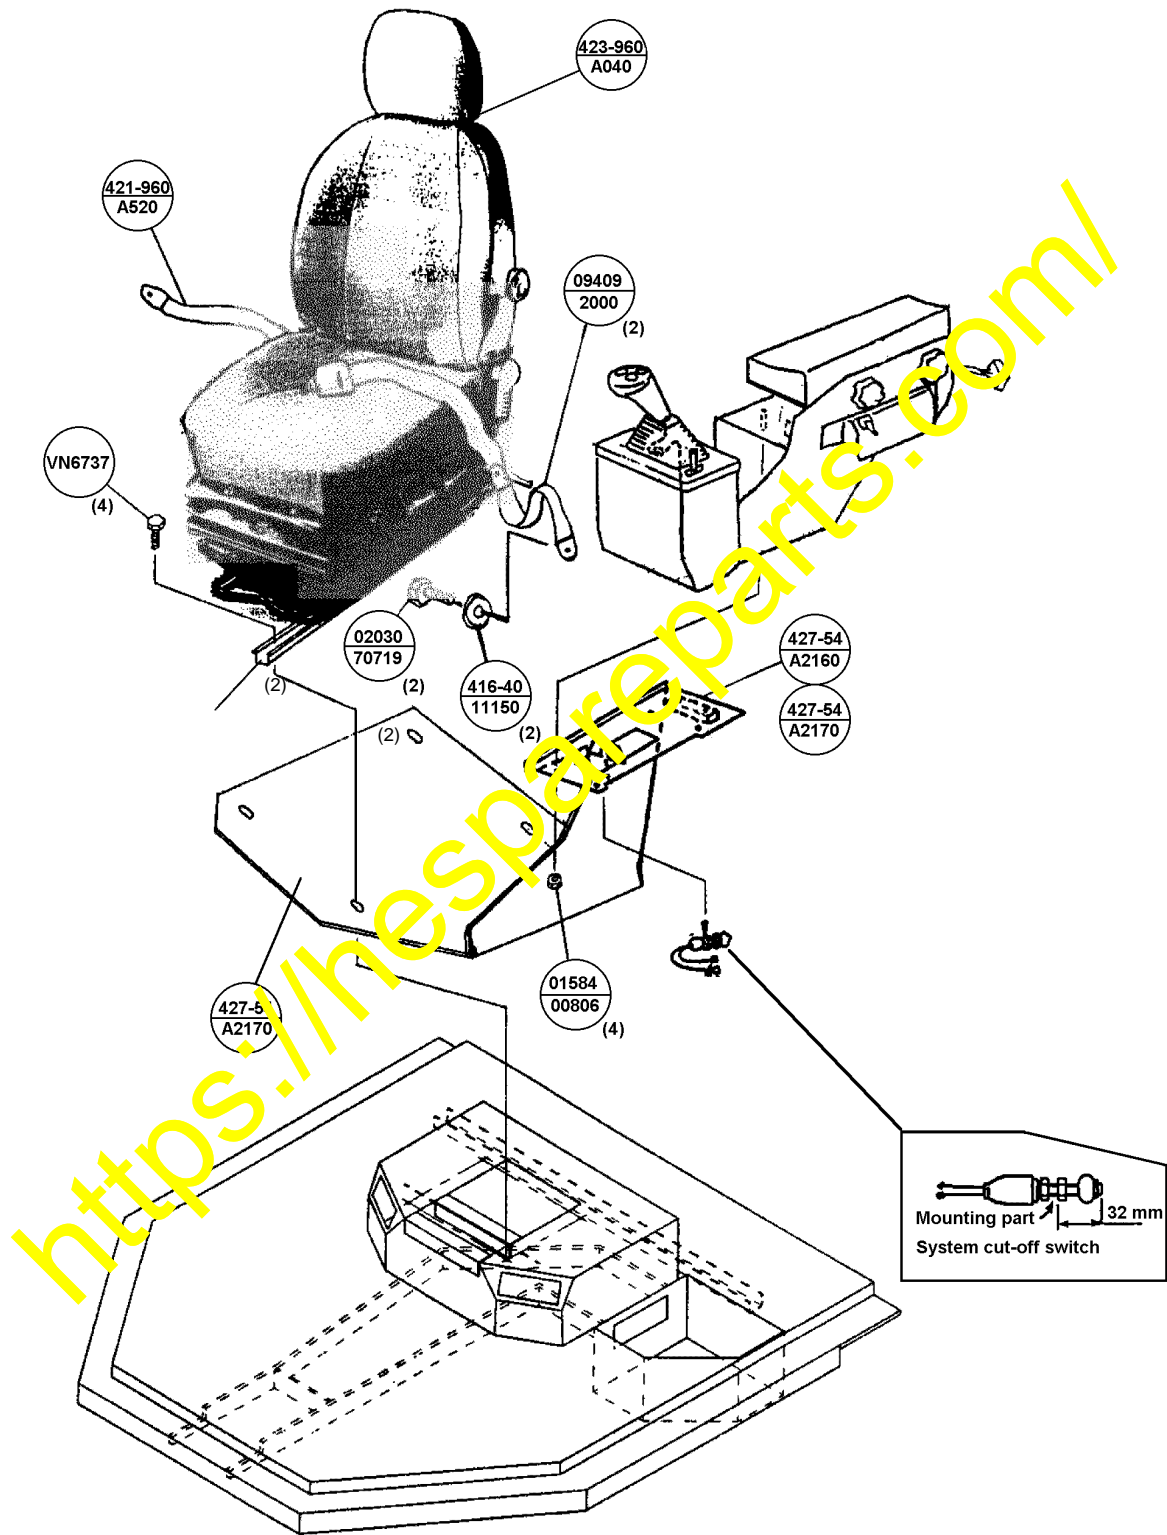

FIGURE 6. ASSEMBLY OF SEAT COMPONENTS
17. Position new joystick bracket to the seat pedestal and place the new operator's seat on top of the bracket. Refer to Figure 6. Align the holes and install four new bolts (VN6737). Adjust the seat to gain access to all of the holes. Tighten the bolts to a torque of 21 ft.lb. (31.3 kgm).
20. Reinstall the existing cutout switch. Refer to Figure 6 for the proper installation dimension. Connect the female lead to CN11 on the joystick harness. Connect the male lead to CN12 on the joystick harness.